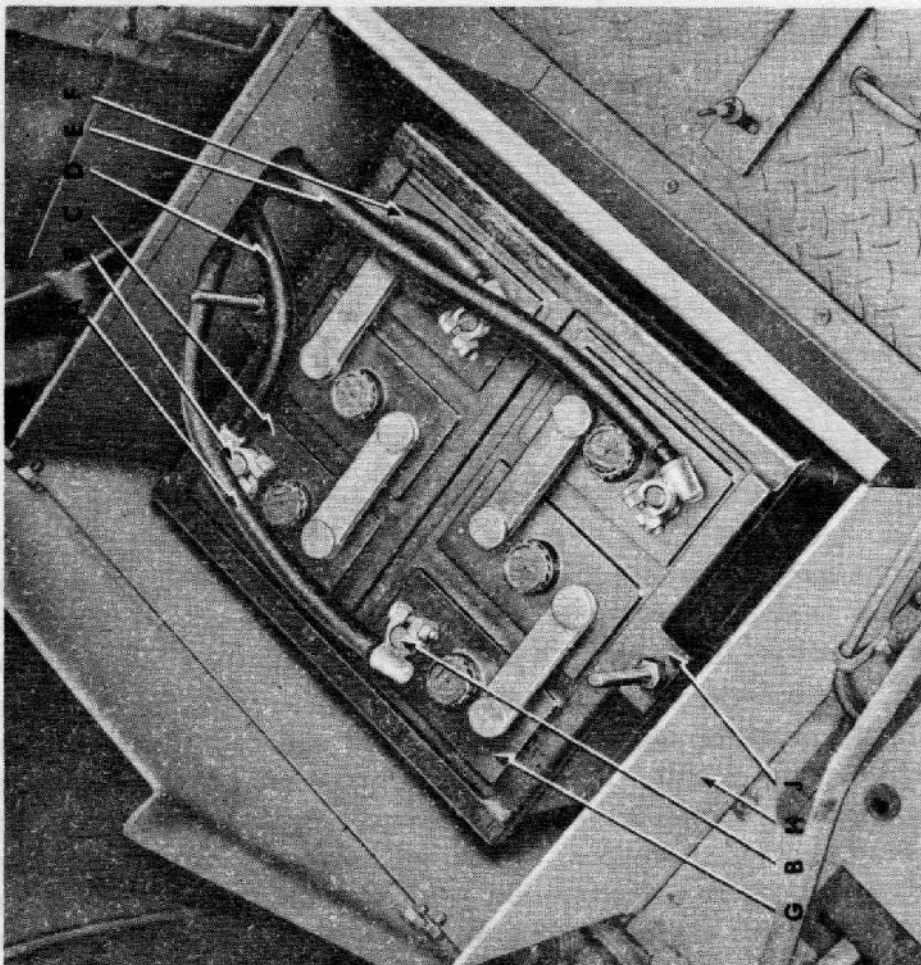

Figure 65 — Batteries Installed
a. **Description** (fig. 65). Four heavy, high-amperage battery cables are used. They are of similar constructions but of different lengths. Each consists of multiple strands of braided copper wire protected by an insulating covering. Each has a battery terminal, soldered on one end, and a lug on its other end. One leads from the negative post of the right-hand battery to the cranking motor magnetic switch. Another leads from the positive terminal of the right-hand battery to the cranking motor switch. The third leads from the negative post of the left-hand battery to the cranking motor switch. The remaining cable grounds the positive post of the right-hand battery to the frame.
c. **Removal** (fig. 65). Remove driver's seat cushion. Lift seat. Disconnect battery cable from battery. Trace cable toward its other end, and open all clips along length of cable. Disconnect cable at remaining end. Work cable from vehicle. For any cable but battery to magnetic switch, work from under truck. In the case of battery to magnetic switch cable, remove right-hand floorboard and disconnect cable from switch on top of cranking motor.
d. **Installation** (fig. 65). Work cable in position in vehicle. If battery to magnetic switch cable is being installed, connect the two clips which hold cable in position across rear of oil pan. Connect end of cable away from battery first. Connect cable to battery. Test installation by depressing cranking motor switch. Operation indicates satisfactory cable installation. Place a film of grease on connection at battery. Close driver's seat and install cushion. Install floorboard, if removed.
a. **Description** (fig. 65). Two 19-plate, 6-volt batteries are used in this vehicle. They are mounted in a steel battery box located in the cab beneath the operator's seat. Easy access to batteries is provided by merely raising the hinged operator's seat cover. Batteries are held in position by hold-down frames which fit around top edge of battery, and are clamped to box.
(4) **ADD WATER TO BATTERY** (fig. 65). Weekly or oftener, under conditions of severe use or excessively high temperatures, remove vent caps from battery, and check level of electrolyte in cells. If level is less than $\frac{3}{8}$ inch above separators, add pure distilled water.
d. Removal. Lift our driver's seat cushion and lift up seat pan. Disconnect four cables from battery terminals (fig. 65). Remove nuts and lock washers from battery hold-down studs. Lift out battery hold-down frame assembly. Remove batteries from vehicle.
e. Installation (fig. 65). Place batteries in battery box, with positive posts (slightly larger posts) toward the rear. Place battery hold-down frame on batteries. Secure with the two stud nuts and lock washers. Draw nuts up snug but not tight. To install the left-hand battery, connect as follows: cable from "A-" terminal of cranking motor switch to negative post; ground cable to positive post. To install the right-hand battery, connect as follows: cable from cranking motor magnetic switch to negative post; cable from "B+" terminal of cranking motor switch to positive post. Lightly grease exposed metal parts of cable terminals and posts after connection is made. Lower seat pan and install cushion. Check installation of batteries; start engine with cranking motor. Satisfactory starting and a "CHARGE" reading on ammeter indicate satisfactory installation.